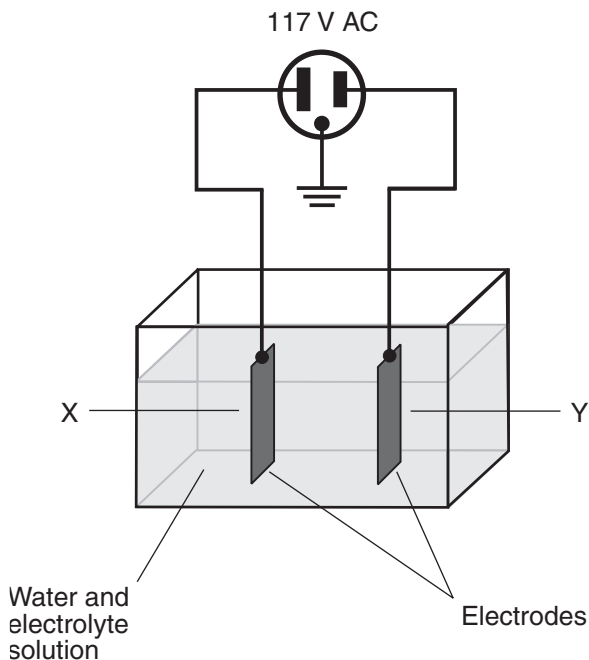

Figure 8-6 Illustration for quiz questions 3, 4, and 5.
3. Consider the apparatus shown in Figure 8-6. Suppose it is intended to be used for electrolysis. What, if anything, is wrong with it?
4. If the device of Figure 8-6 is used exactly as shown, what will appear at electrode X?
5. If the device of Figure 8-6 is used exactly as shown, what will appear at electrode Y?